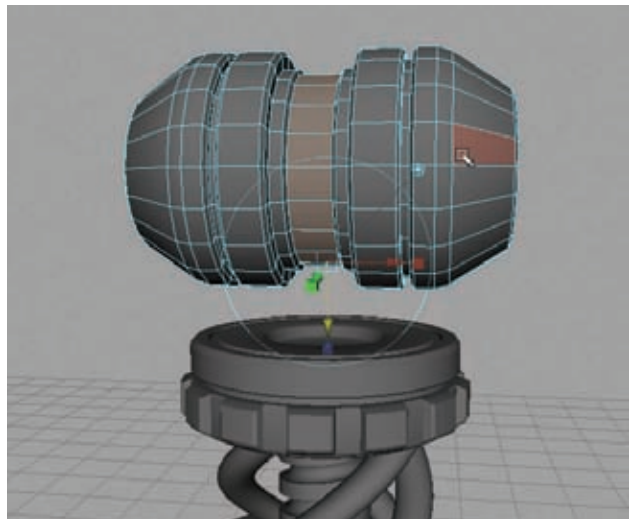

Figure 8.13
10. Select the center faces of the canister, between the two grooves you created earlier. Apply a series of Extrudes and Bevels to get a two-tiered groove running down the center of the canister, similar to the one in Figure 8.13.